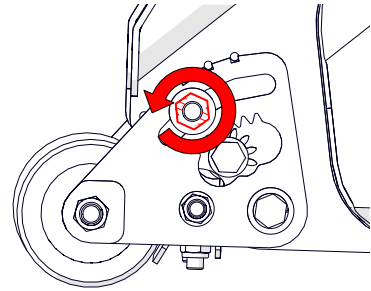

Fig.12E - Loosen the top clamp nut of the roller quadrant
6. Loosen the top clamp nut of the roller quadrant [19 mm spanner] (Fig.12E). Repeat on the opposite side quadrant.